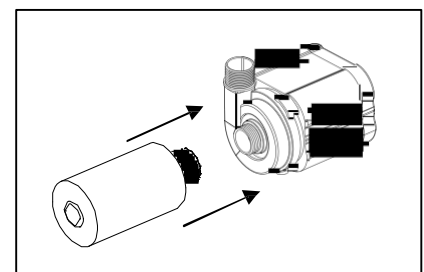

Fig. 8
- Remove the front screen from the pump and connect the prefilter to the front of the pump. Fig. 8